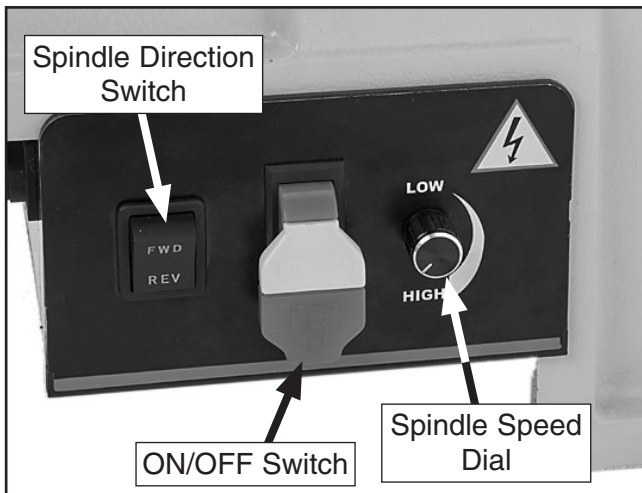

Figure 12. Spindle controls.
3. Turn spindle speed dial all the way counter-clockwise (see **Figure 12**).
5. Verify machine is operating correctly by setting spindle direction switch in FWD (up) position, flipping ON/OFF paddle switch up (see **Figure 12**), then slowly turning spindle speed dial clockwise. The digital readout should illuminate, and spindle should rotate down toward front of lathe.
6. Press ON/OFF switch (see **Figure 12**).